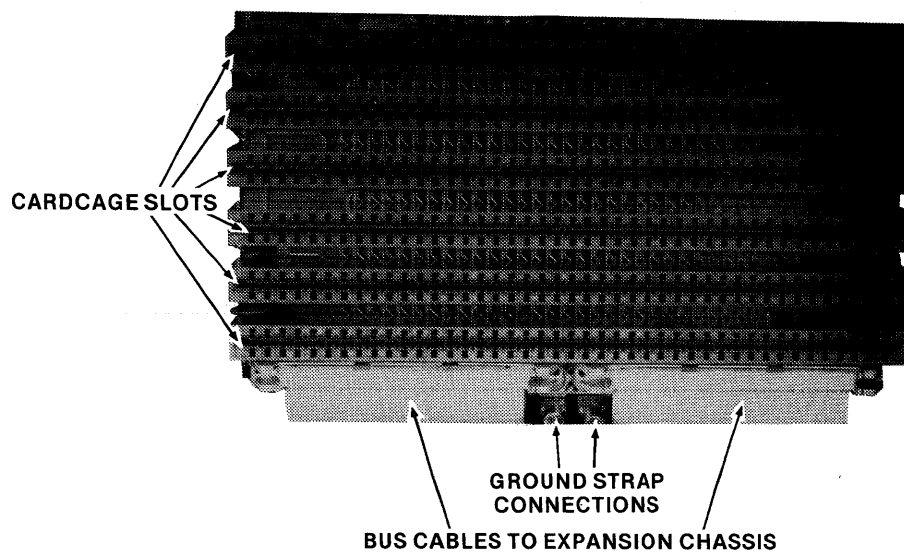
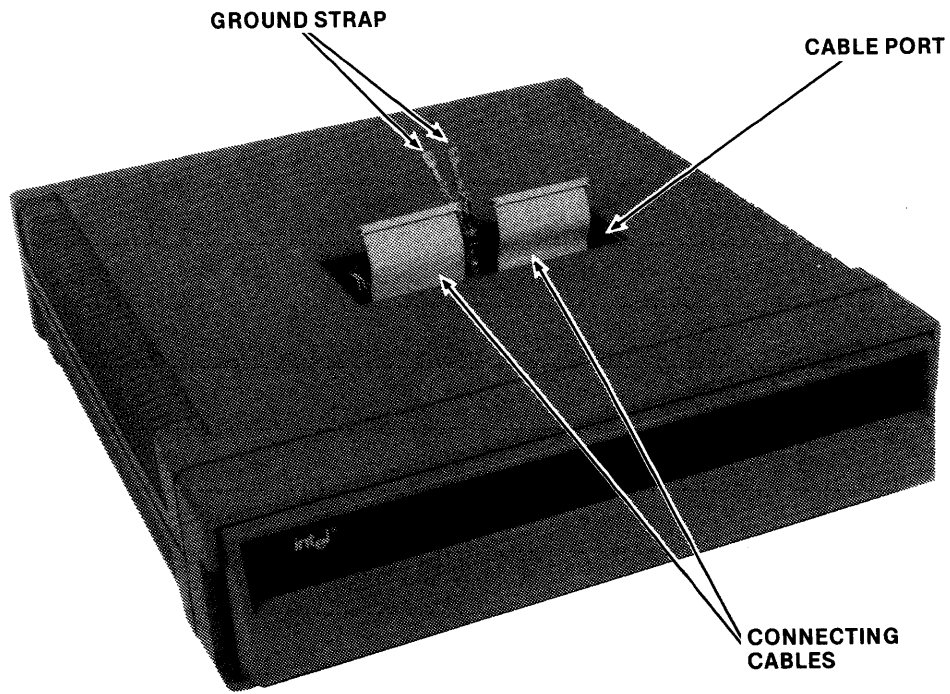

Figure 4-22. Cardcage Cable Connections
Figure 4-23. Expression Chassis Cable Port
Figure 4-22 shows the two bus cables attached to the main card cage (for visibility, the IPB and other cards have been removed), and Figure 4-23 shows the expansion chassis cable port, with the two bus cables and the ground straps extended.
5. Plug the two bus cables into place in the expansion chassis cable port, as shown in Figure 4-23. The ground straps are factory-installed.
6. Place the main chassis on top of the expansion chassis, tilting it to reach the cable port beneath. Refer to Figure 4-22. Connect the two bus cables to the connectors within the main chassis cable port, and connect the ground straps as shown.